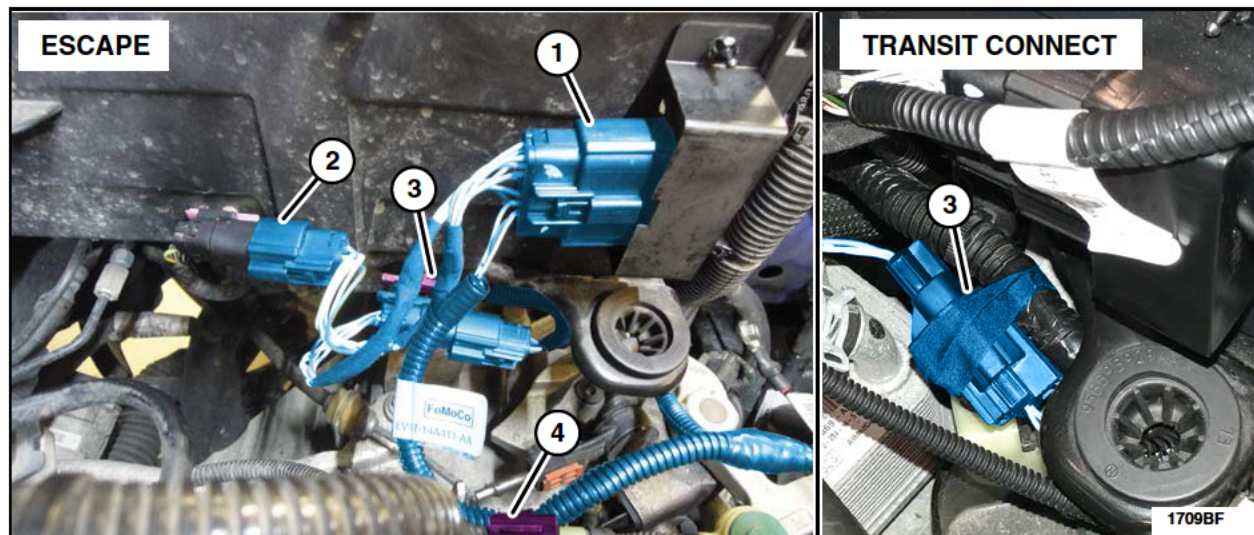

FIGURE D2
4. Install the coolant stand-pipe wiring harness. See Figure D2.